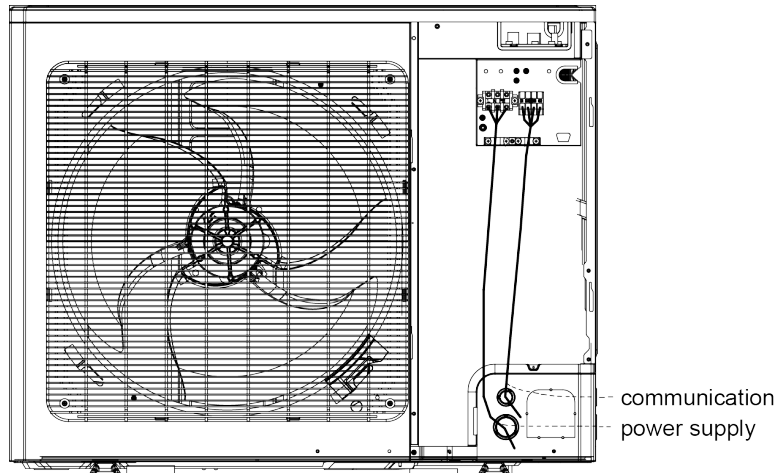

Fig. 28 Engineering Wiring View of GMV-80WL/A-T, GMV-100WL/A-T, GMV-121WL/A-T, GMV-80WL/C-T, GMV-100WL/C-T and GMV-121WL/C-T
- (1) Please refer Fig. 28, 29 and 30 for engineering wiring. If there is the hole for cable tie in wiring route, please fix the wire with cable tie. Connect the power cord and communication cable to the corresponding terminal board and grounding screw according to the wiring diagram.
- (2) Please be noted that engineering wiring cannot touch the pipe and appliance.
- (3) This figure is only applicable for engineering wiring reference of power supply and communication cable. If there are differences between the figure structure and actual unit, please refer to the actual unit.
(4) For engineering wiring, please refer to the wiring diagram provided with the unit.